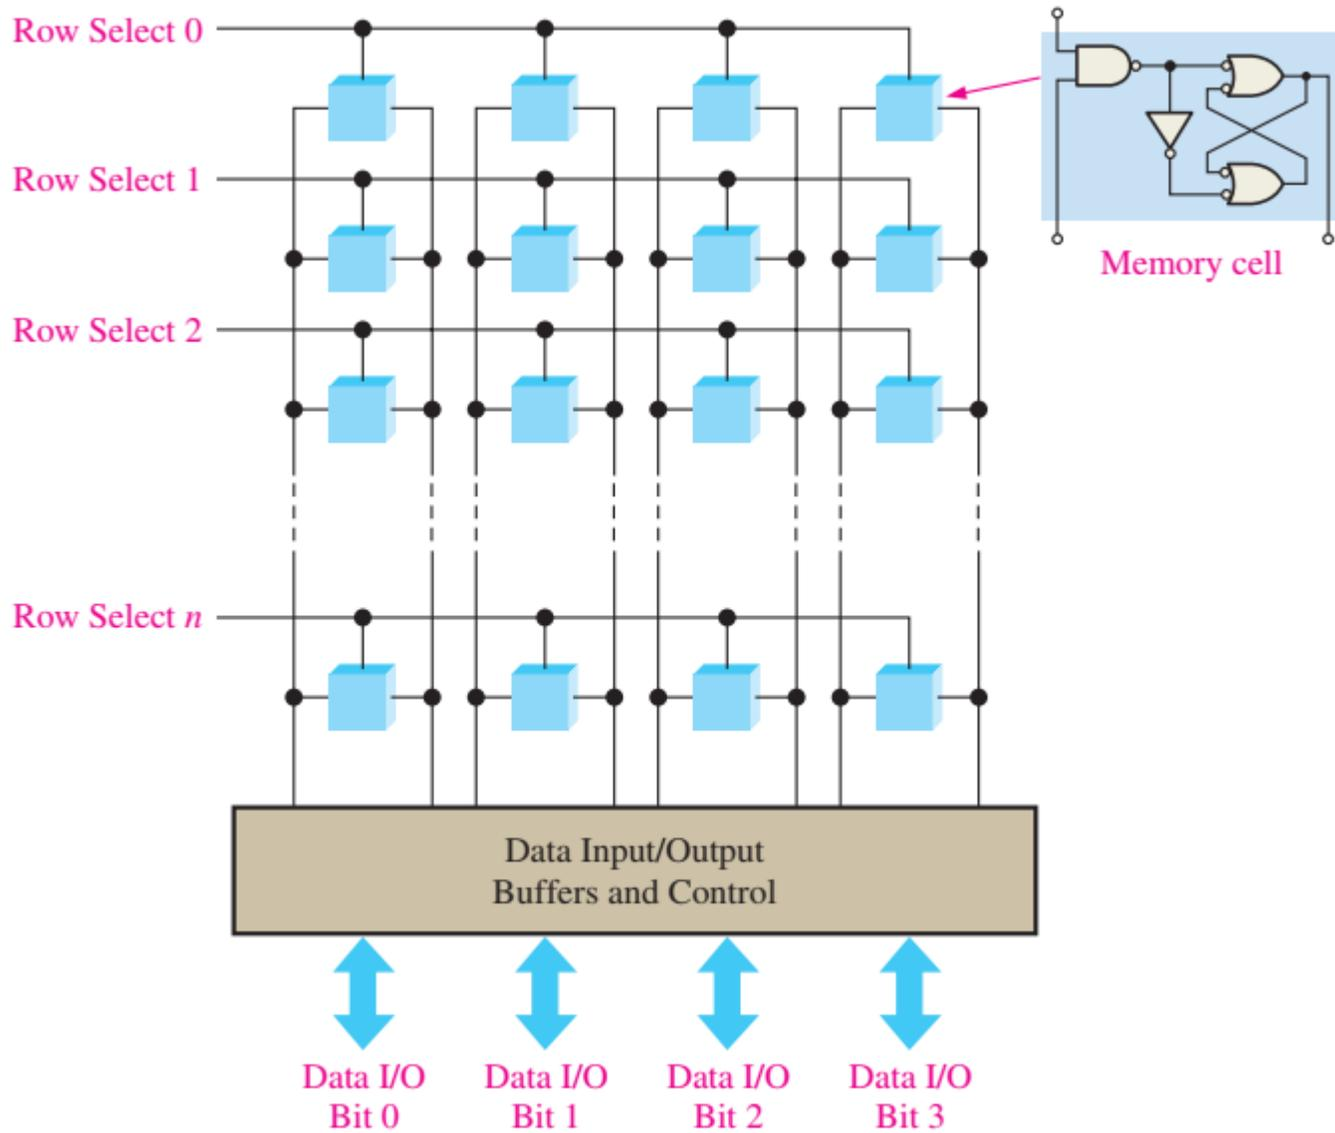

Fig. 2-6 Basic SRAM array.
- The memory cells in a SRAM are organized in rows and columns, as shown in Fig. 2-6.